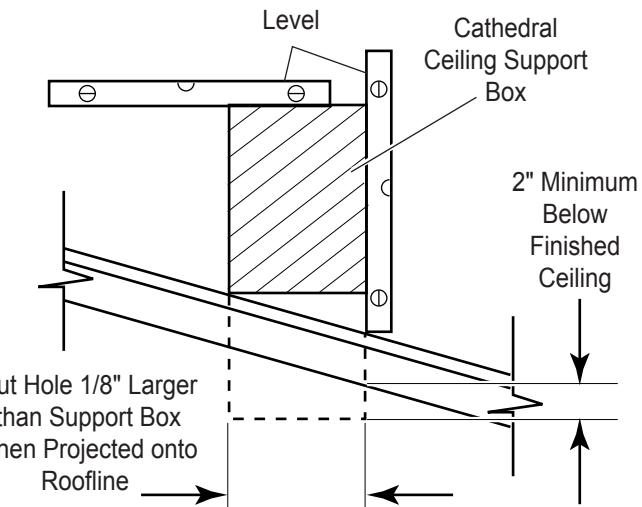

Figure 30 - Cathedral Ceiling Support Box Installation
2. Cut the hole 1/8" larger than the support box outline. See Figure 30.
3. Lower the support box through the hole in the roof until the bottom of the box extends at least 2" (mm) below the ceiling. See Figure 30. Align the support box vertically and horizontally using a level. Temporarily tack the support box in place through the inside walls and into the roof sheeting.